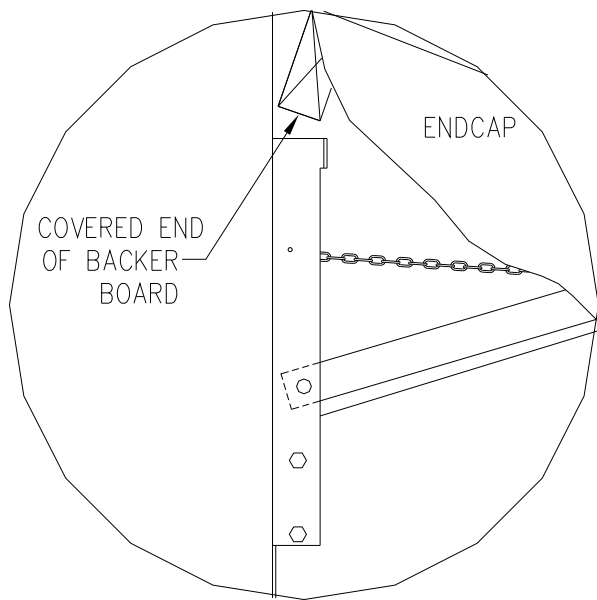
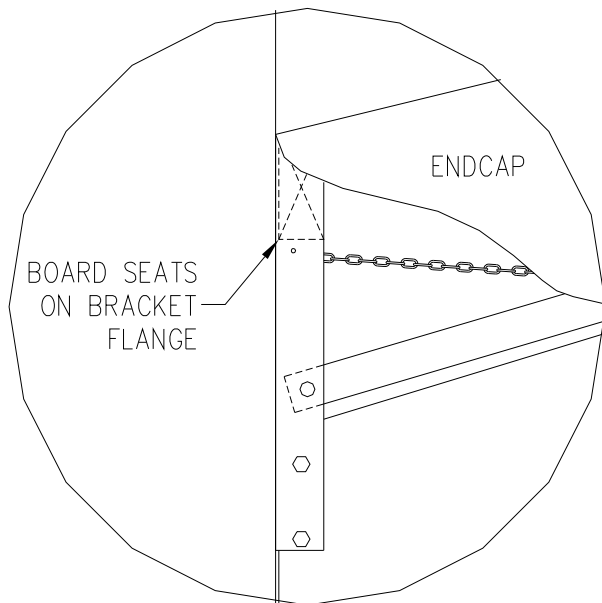

FIGURE 10
FIGURE 11
5. Unroll and then lift and lay the canopy cover, with wood backer attached, on top of the side arms at the wall. Lift up and slowly position the wood backer board behind the tabs on the header mounting brackets. (See Figure 10) Insert one side first, then the other. Make sure the covered end of backer board faces downward and goes into bracket first. Then seat both completely. The backer bar should rest on flange part on the mounting bracket. (See Figure 11) Make sure the canopy cover and endcaps, at the corners where the canopy top and endcap meet, are laying correctly over the edge of the mounting bracket.